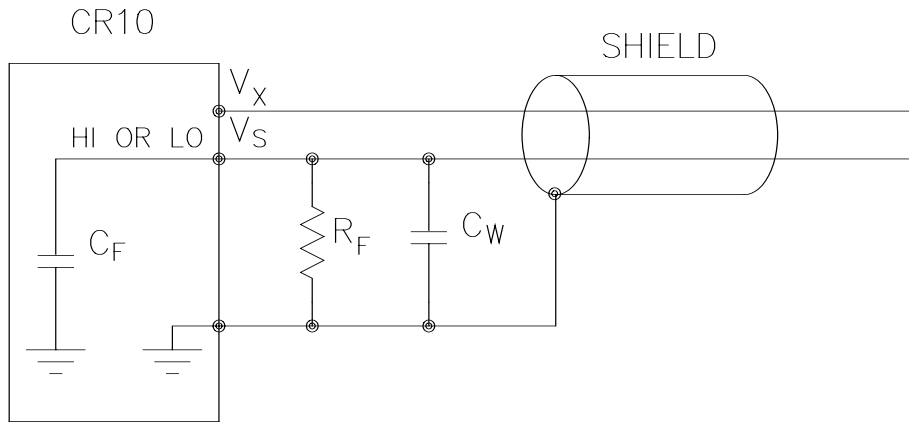

FIGURE 13.3-8. Measuring Input Settling Error with the CR10
5. Use the CR10 to measure the input settling error associated with a given configuration. For example, assume long leads are required but the lead capacitance, C_w , is unknown. Configure R_f on a length of cable similar to the measurement. Leave the sensor end open as shown in Figure 13.3-8 and measure the result using the